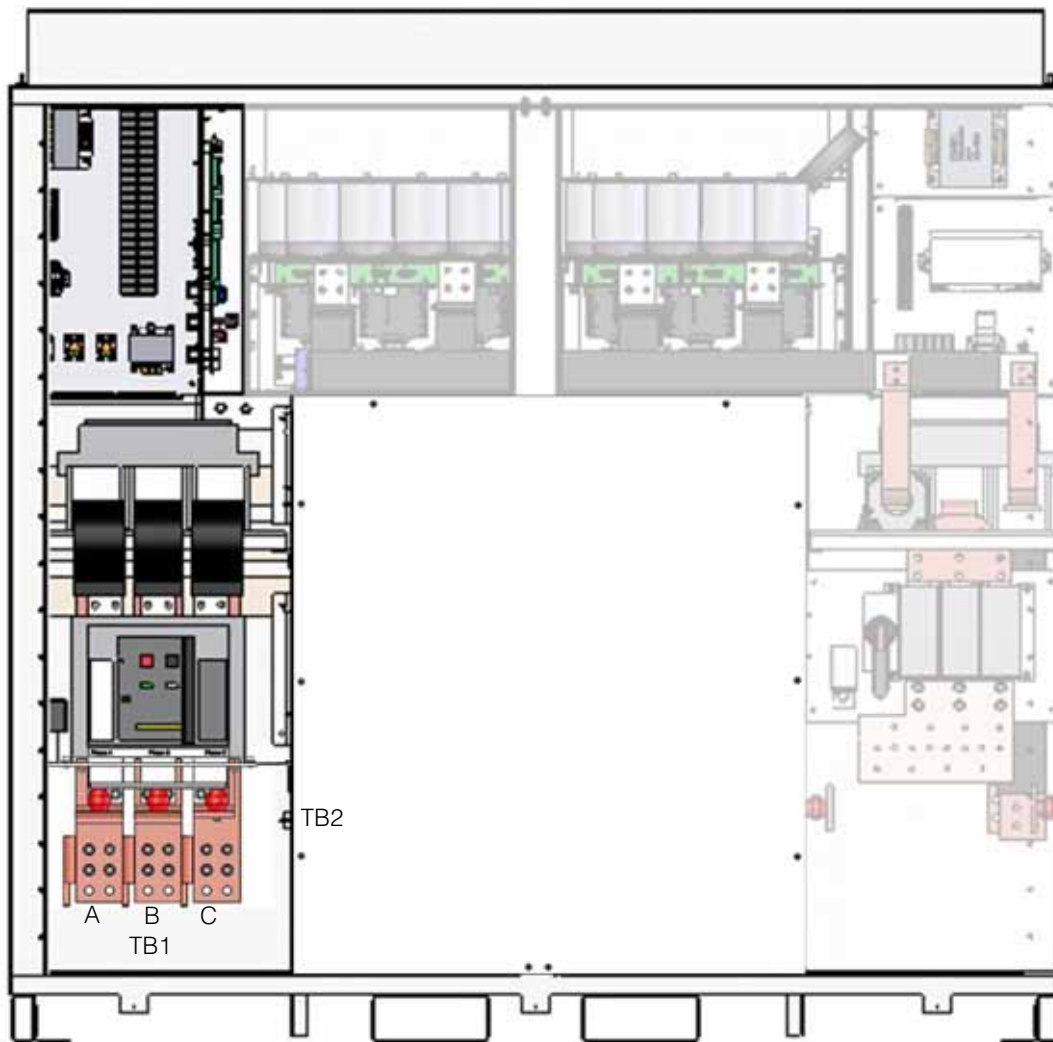

Figure 1-3 AC Utility Terminals
- Figure 1-3 AC Utility Terminals ----- 1-5